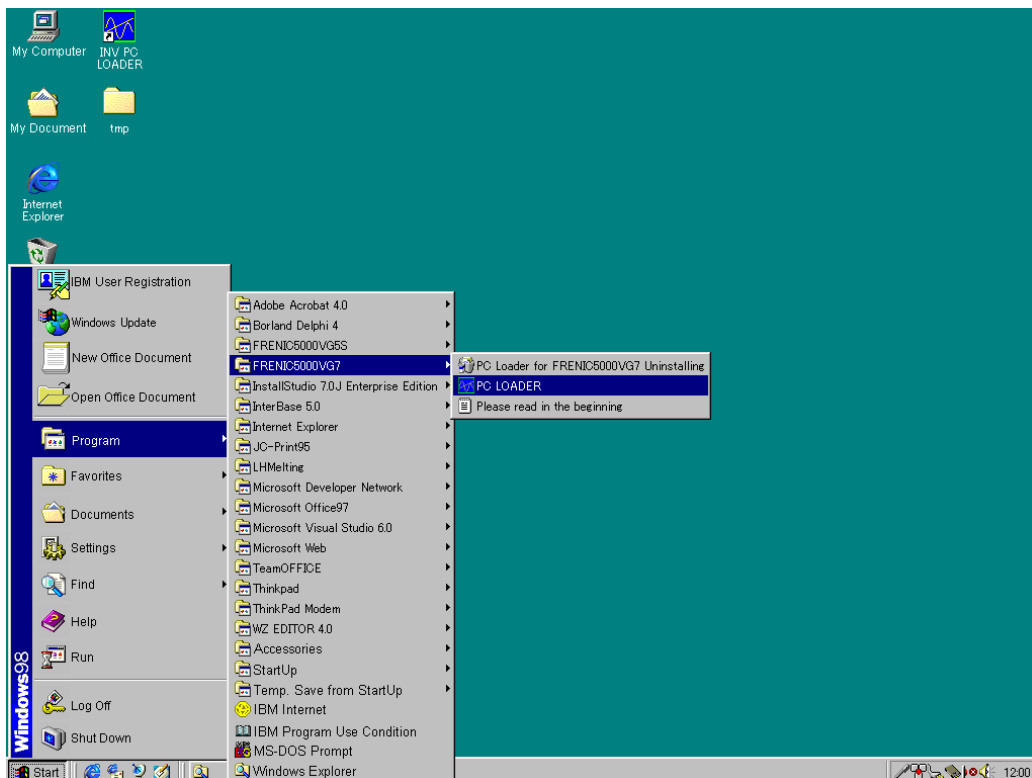

Figure 17 Start from the Start Menu
- (4) Select PC Loader in the start menu as shown in Figure 17.